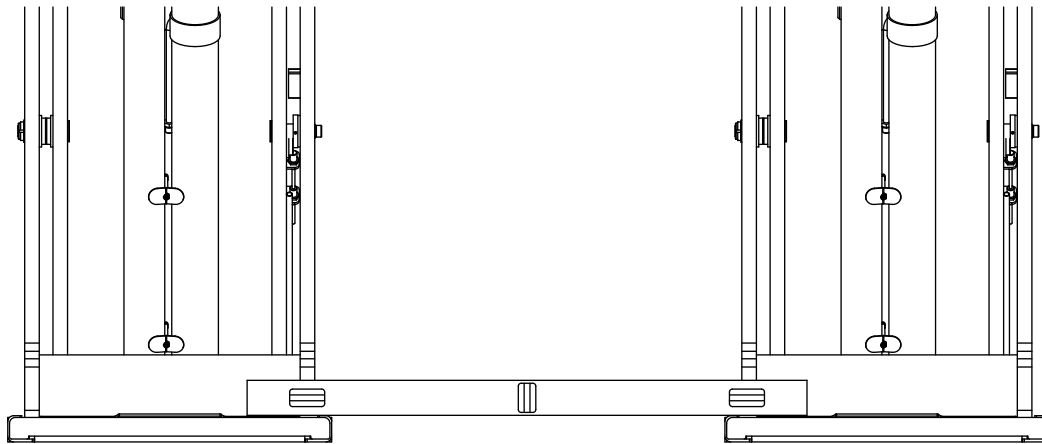

Fig. 8a
3. Verify platform bases are level to each other, Fig. 8a.